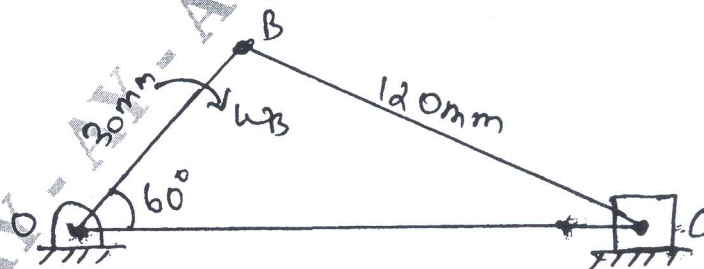

Fig Q3
- 3 In a slider crank mechanism, the crank $OB = 30\text{mm}$ and the connecting rod $BC = 120\text{mm}$. The crank rotates at the uniform speed of 300rpm clockwise. For the crank position shown in Fig Q3, in which the crank is turned 60° . Find :